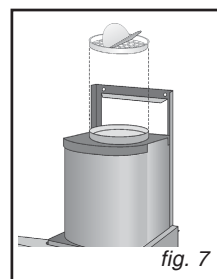

fig. 7
- Install the flange in the device air outlet and press slightly (Fig.7).